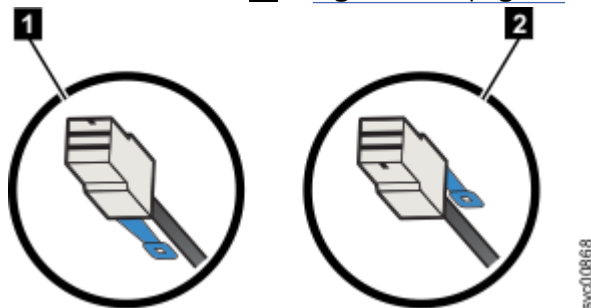

Figure 58. SAS cable connector orientation
When you insert SAS cables, make sure the connector (Figure 58 on page 97) is oriented correctly.
- For FlashSystem control enclosure node canisters and 2U expansion enclosures, the blue pull tab must be below the cable (**1** in Figure 58 on page 97).
- For 5U expansion enclosure canisters, the blue pull tab must be above the connector (**2** in Figure 58 on page 97).